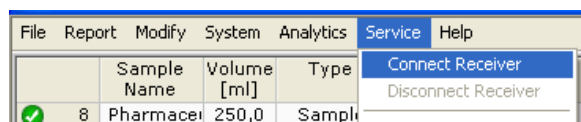

Fig. 4
1. After having connected it to the PC, select **Connect Databox** from the **Service** menu (Fig. 4).